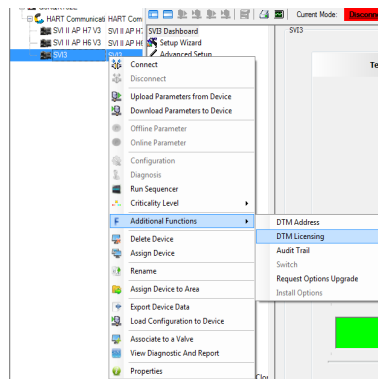

Figure 5 Sample DTM Registration Path
1. Open a Masoneilan DTM, select a device and then select **Additional Functions > DTM Licensing** (Figure 5).